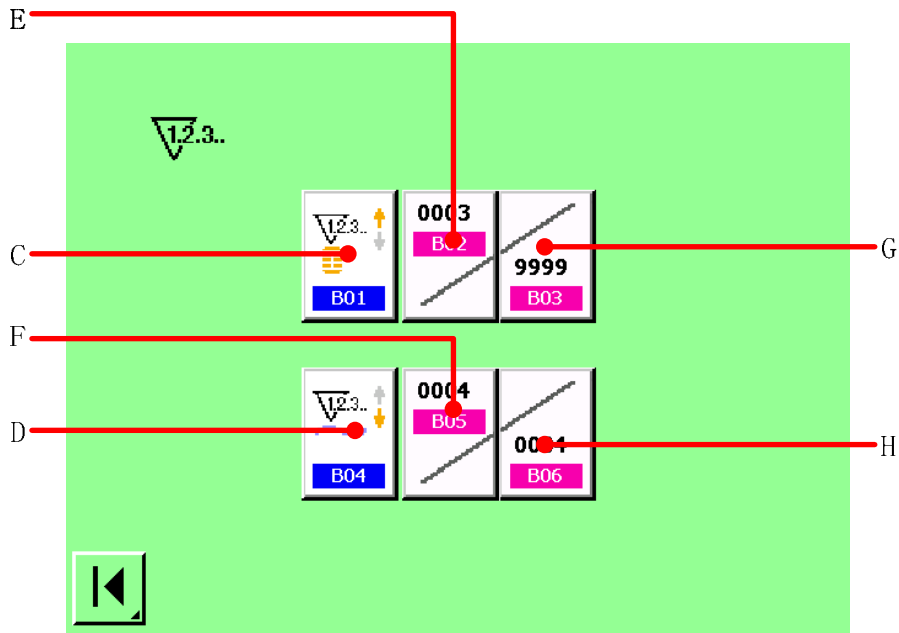

figure 8.2
In case of the sewing counter, press button  (G) and in case of the No. of pcs. counter, press button  (H) and the set value input screen is displayed. Here, input the set value. (See figure8.2.)